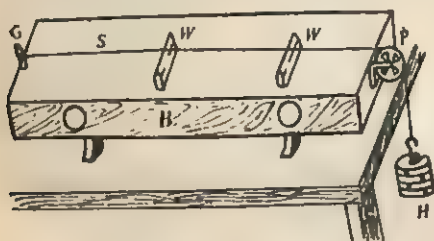

Fig. 5.13. Sonometer.
**Construction.** It consists of a long sounding board or a box  $B$  with a peg  $G$  at one end and a pulley ( $P$ ) at the other end as shown in Fig. 5.13. One end of a metal wire  $S$  is attached to the peg and the other end passes over the pulley. Weights on a hanger  $H$  are hung from the other end of the wire  $S$  to vary the tension in it. Two bridges  $W$  and  $W$  are provided for the purpose of altering the vibrating length of the wire. To understand the working of a sonometer